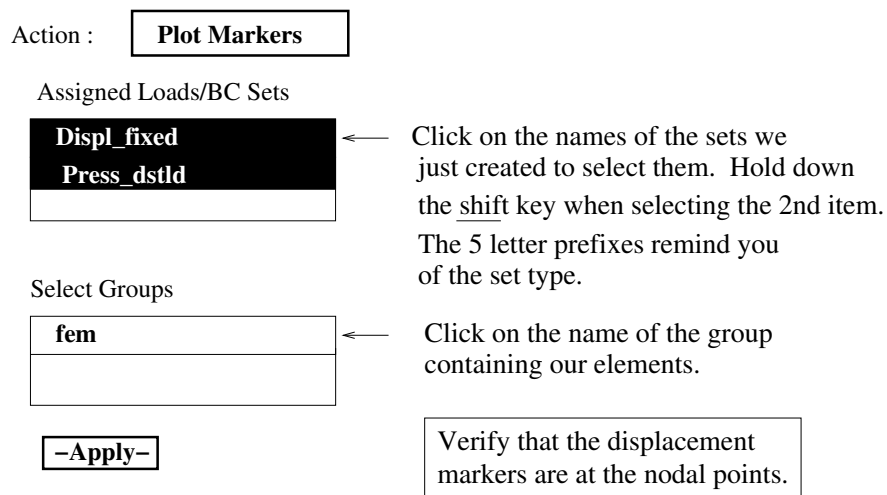

Figure 29: Plot Markers
- Choose ◇ **Loads/BCs**. Choose the 'Action' Plot Markers (**Figure 29**). Click on the name of the set **Displ_fixed** to select it, from the box marked 'Assigned Load/BC Sets'. Then hold down the **shift** key and click on the name of the set **Press_dstld** to select it as well. From the 'Select Groups' select 'fem'. Then click on the 'Apply' button.